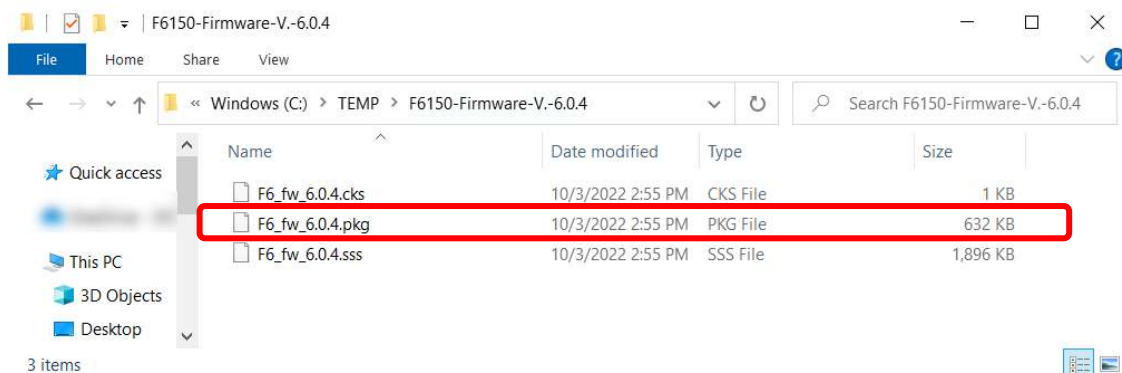

Figure 3. Unzipped F6 CPU3 firmware files and release notes
14) Make a note of this folder location and the resulting file “.pkg.” Figure 3 shows an example of the unzipped firmware file (and the unzipped release-notes file)